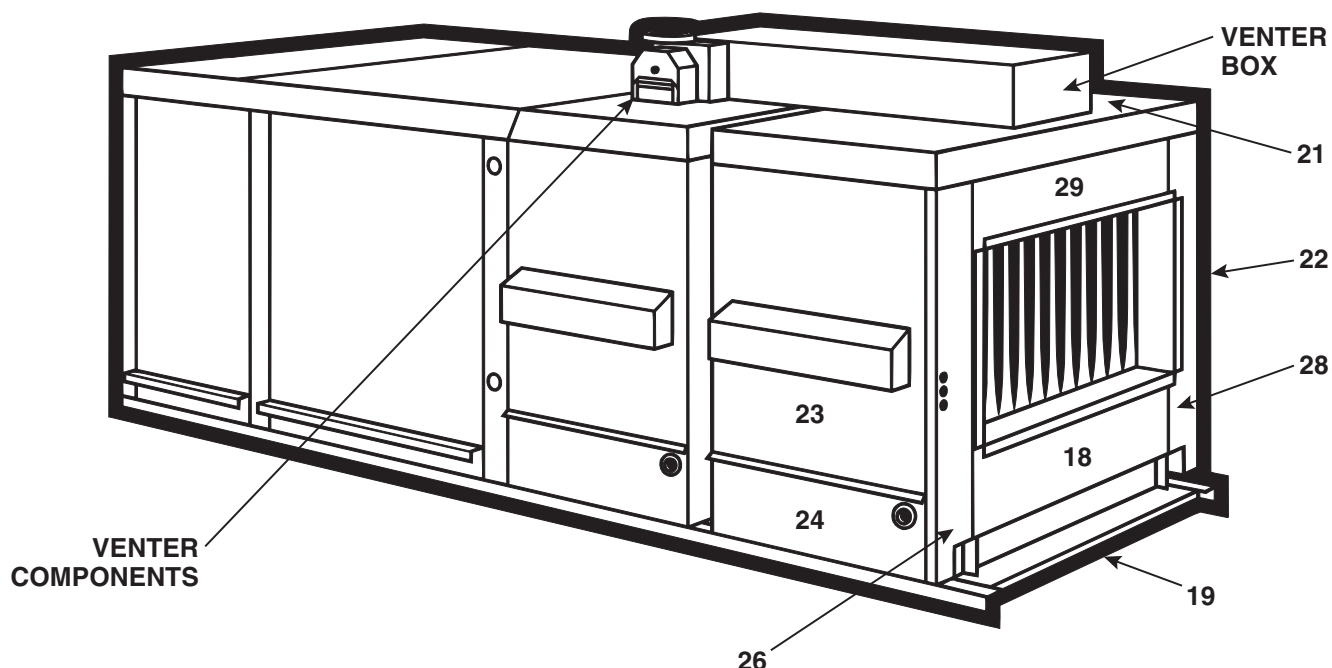

Figure 11. Model PGBL Venter Box Components (Refer to Table 18)
- Venter box components for PGBL models are shown in Figure 11 and listed in Table 18.